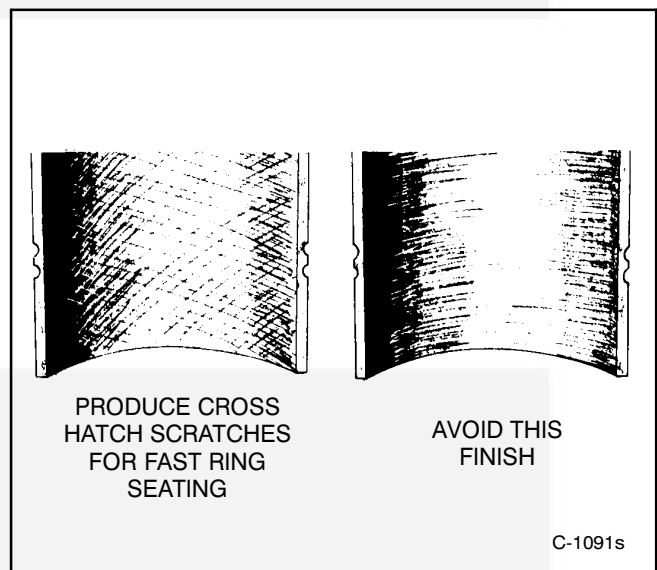

FIGURE 10-28. CROSSHATCHING
3. The deglazing tool should be driven by a slow speed drill. Move deglazing tool up and down in cylinder rapidly enough to obtain a crosshatch pattern as shown in Figure 10-28.